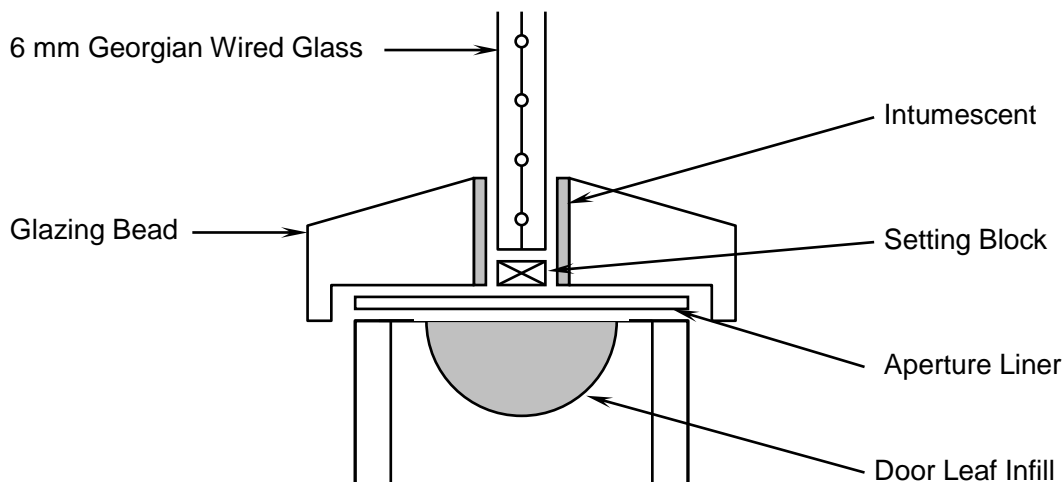

Figure 2. - Glazing Detail
7.1 Glazing system (see also Figure 2, overleaf)